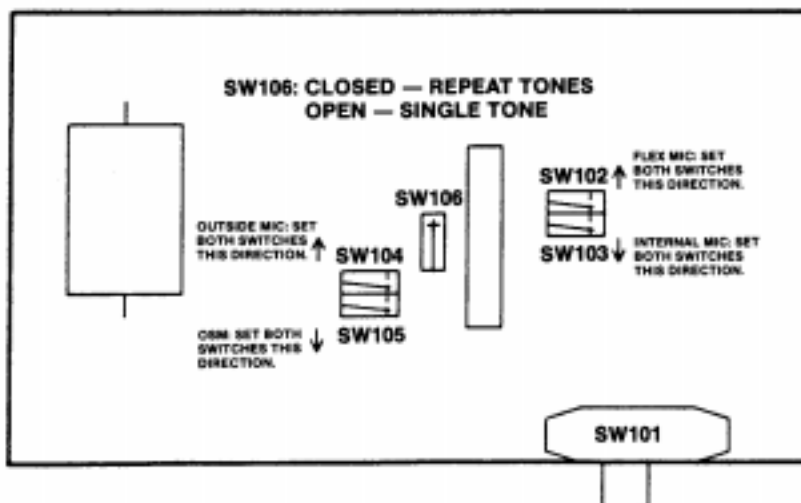
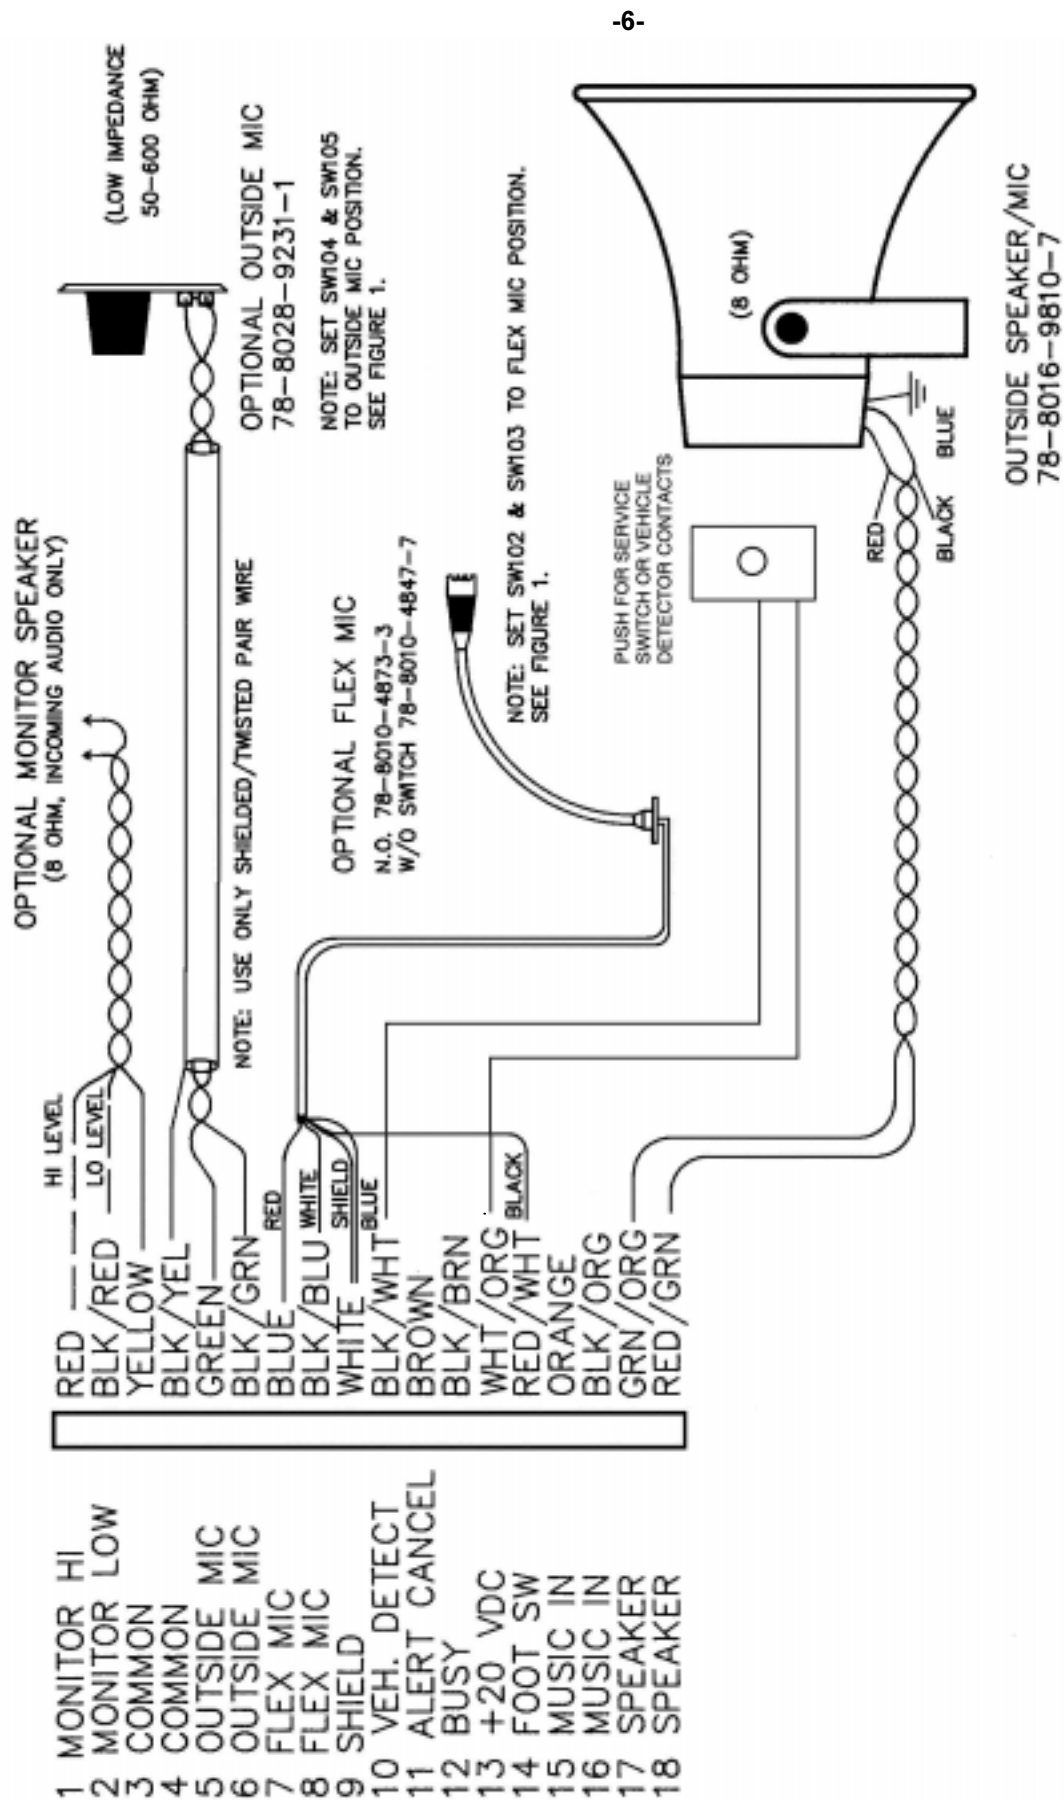

Figure 1. Model 478DA Internal Switches
Figure 3. Model 478DA Speaker/Mic Connections
2. **OUTSIDE SPEAKER/MIC** - The D-15 intercom provides two-way communication to a remote 8-ohm speaker. A weatherproof horn-type speaker is acceptable for most drive-thru applications, although best audio clarity is achieved with the use of a separate speaker and microphone. The 3M OSM (78-8016-9810-7) can be used for most menu sign and point-to-point communications. The 3M Security Speaker/Mic (78-8028-9047-1) is recommended for pass-through window applications. Place the speaker at a height of 42 to 54 inches above the driveway surface to reduce vehicle noise. Connect to the SPEAKER outputs as shown in figure 3.
3. **SPLIT SPEAKER AND MICROPHONE** - The D-15 allows the connection of separate components for incoming and outgoing audio. To select this option, set SW104 and SW105 to the OUTSIDE MIC position (see figure 1). A low-impedance dynamic microphone may be connected to the OUTSIDE MIC inputs and the outgoing audio will still be on the SPEAKER outputs (see figure 3).
4. **FLEX MICROPHONE** - A low-impedance microphone may be substituted for the internal D-15 mic to place the microphone closer to the operator for better voice clarity in noisy situations. Set SW102 & SW103 to the EXTERNAL MIC position (see figure 1) and connect the microphone to the FLEX MIC and SHIELD inputs (see figure 3).
5. **MONITOR SPEAKER** - An 8-ohm speaker may be connected to the monitor outputs to monitor the incoming conversation. Use twisted pair wire to connect this monitor speaker to the MONITOR HI (or MONITOR LO) and COMMON outputs (see figure 3). MONITOR LO is the same power output as the internal speaker, MONITOR HI outputs a higher level.